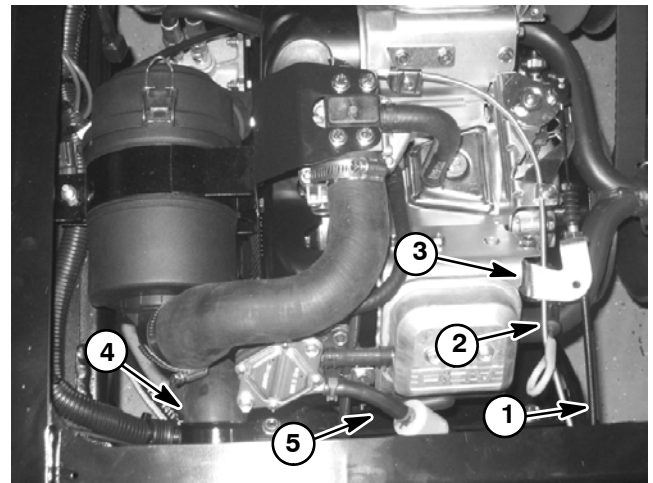

Figure 13
5. Disconnect the following components (Fig. 13):
6. Disconnect fuel inlet hose from the fuel pump (Fig. 13).
9. Connect fuel inlet hose to the fuel pump (Fig. 13).
10. Connect the following components (Fig. 13):